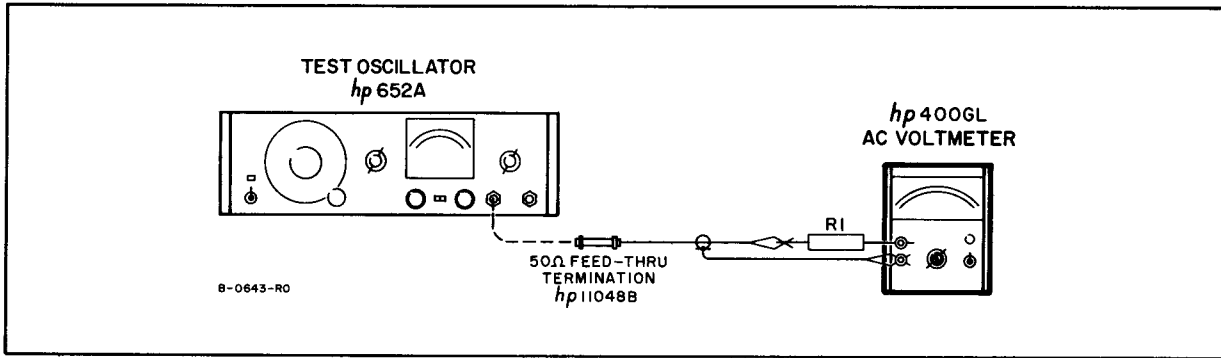

Figure 5-3. Input Impedance Check Setup
- d. Connect resistor R1 between test oscillator and 400GL as shown in Figure 5-3. (R1 = 200 K $\Omega$ ).
- a. Connect test oscillator and resistor R1 to 400GL as shown in Figure 5-3. (R1 = 100 K $\Omega$ ). Connect resistor lead directly to GR connector.